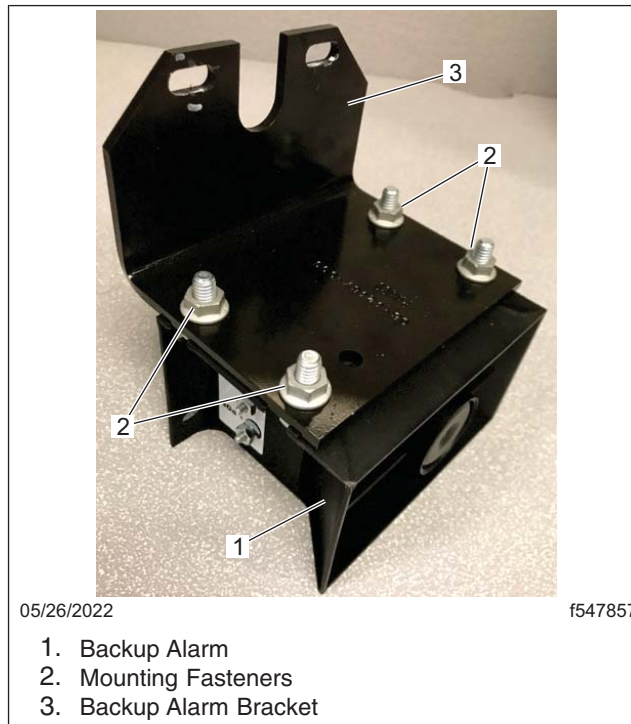

Fig. 7, Backup Alarm Removal
13. Remove the four fasteners that attach the backup alarm to the backup alarm bracket, then remove the backup alarm. See **Fig. 7**.